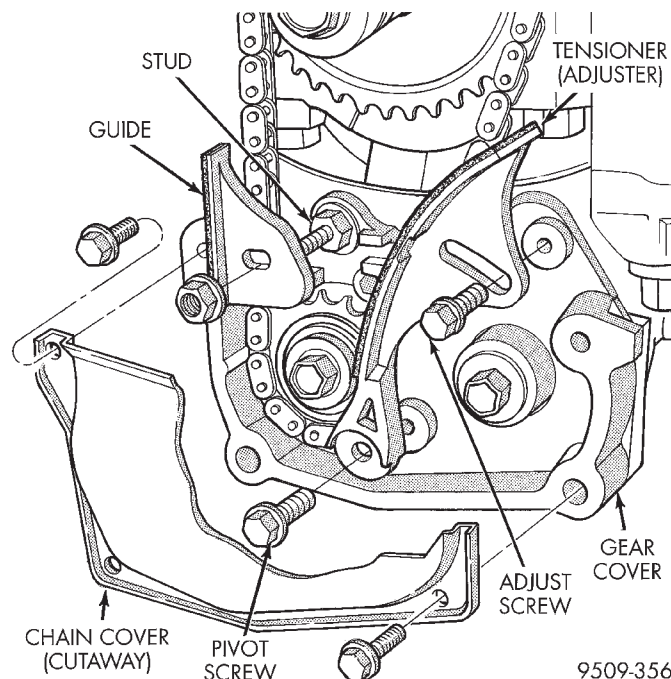

Fig. 34 Chain Cover, Guide and Tensioner
- (1) Remove chain cover, guide and tensioner (Fig. 34). Also see Carrier Assembly Removal for service procedures requiring only temporary relocation of assembly.
- (2) Remove gear cover retaining stud (double ended to also retain chain guide). Remove cover and balance shaft gears (Fig. 34).